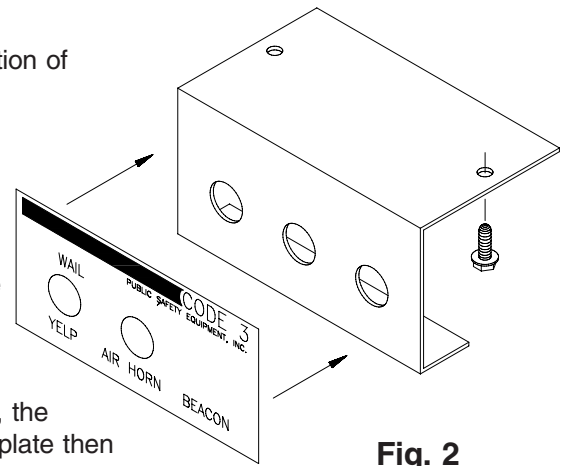

Fig. 2
Remove the backing from the adhesive faceplate and place the faceplate over the three hole bracket, see Fig. 2. Should you wish to install a switch for a beacon, carefully cut the faceplate with a sharp knife from the front to expose the extra hole in the bracket and then mount the bracket with the remaining (2) #8 screws. The bracket should be mounted in a location that will provide convenience for the operator.